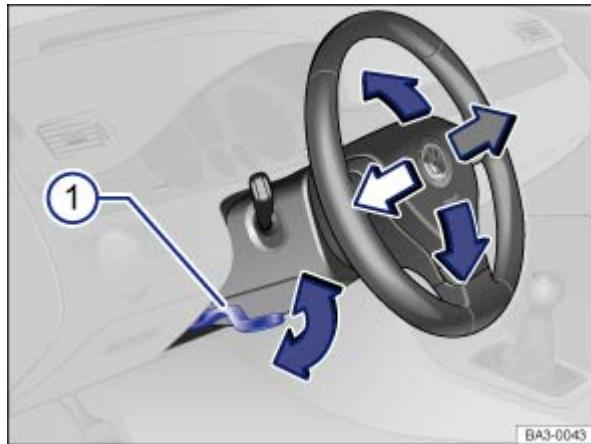

Fig. 71 Manual adjustment for the steering wheel position.
The steering wheel can be adjusted up and down (blue arrows) or forward and back (white and gray arrows) ⇒ Fig. 71 .
- Push down on the lever ⇒ Fig. 71① .
- Always pull the lever ⇒ Fig. 71① firmly upward after adjusting the steering wheel so that the steering wheel does not change position suddenly while the vehicle is moving.